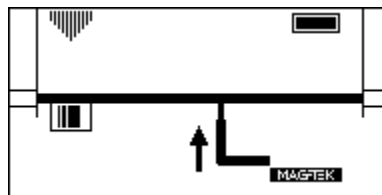

Figure 5-2. CET Insertion
4. Insert the tool up to the handle as shown in Figure 5-2.